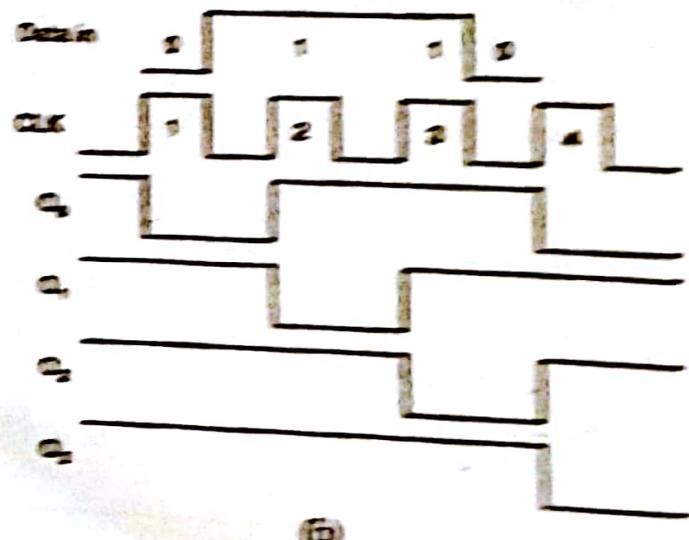

Fig. 8.13.
**Example 8.2.** Fig. 8.13 (a) shows a 4 bit serial-in-parallel-out shift register. Show the status of 4 registers for the data 0110.
**Solution :** Fig. 8.13 (b) shows the diagram depicting the status of register.